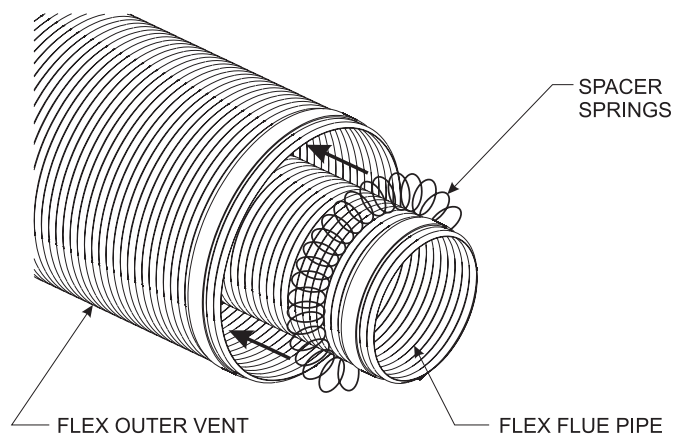

Figure 57
2. Check to see that the vent spacer springs are located around the flue vent at 8 inch intervals along its length. **See Figures 57 & 58.** If not, stretch the spacer springs to about 15 inches long and wrap them around the flue, then interlock the ends of each spring. Maintain equal distance between spring spacers.